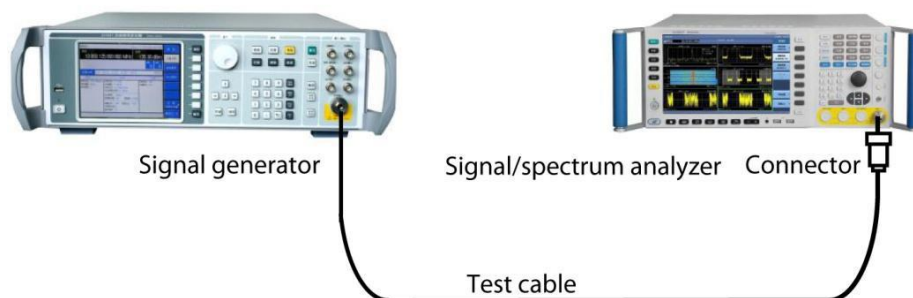

Fig. 4.76 Connection Settings of Harmonic Distortion Measurements
Step 2: Connect the radio frequency output port of the signal source to that of the analyzer. As shown in Fig. 4.76: